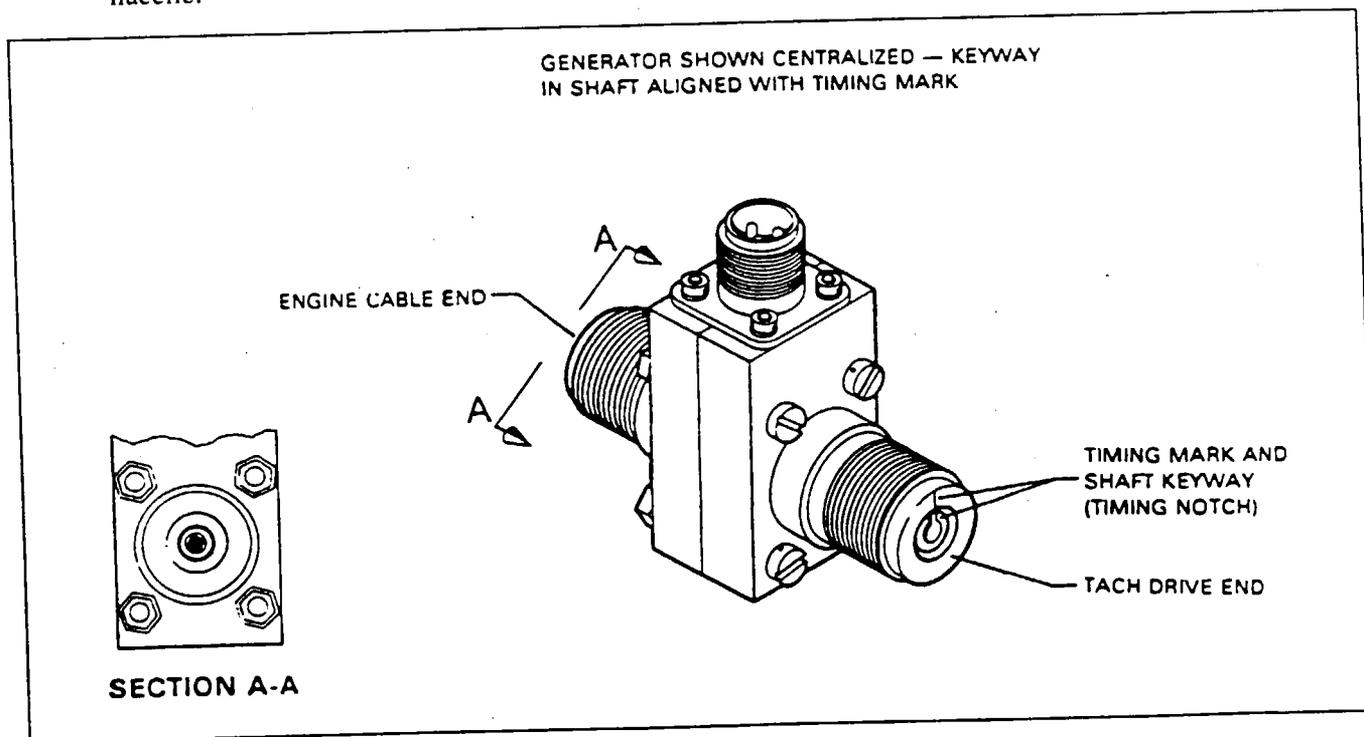

Figure 61-5. Pulse Generator
- 3. Turn the pulse generator counterclockwise to align the timing mark with the center of the keyway. (Refer to Figure 61-5.)
**INSTALLATION AND ADJUSTMENT OF PULSE GENERATOR. (Refer to Figure 61-5.)**